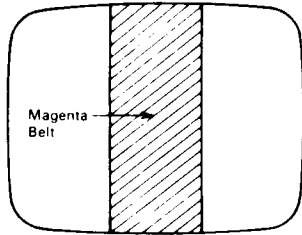

FIGURE 4
4. Pull the Deflection Yoke backward so that the Magenta belt will appear. (See Fig. 4).